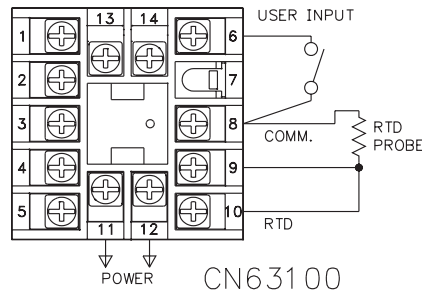

Figure 5, RTD Connection
When connecting the RTD, be certain that the connections are clean and tight, refer to Figure 5 for terminal connections. RTD sensors have a higher degree of accuracy and stability than thermocouple sensors. Most RTD sensors available are the three wire type. The third wire is a sense lead for canceling the effects of lead resistance of the probe. Four wire RTD elements may be used by leaving one of the sense leads disconnected. Two wire RTD sensors may be used in either of two ways:
- Attach the RTD to terminals #8 and #10. Install a shorting wire between terminals #9 and #10, as shown in Figure 5, RTD Connection. A temperature offset error of 2.5°C/ohm of lead resistance exists. The error may be compensated by programming a temperature offset.